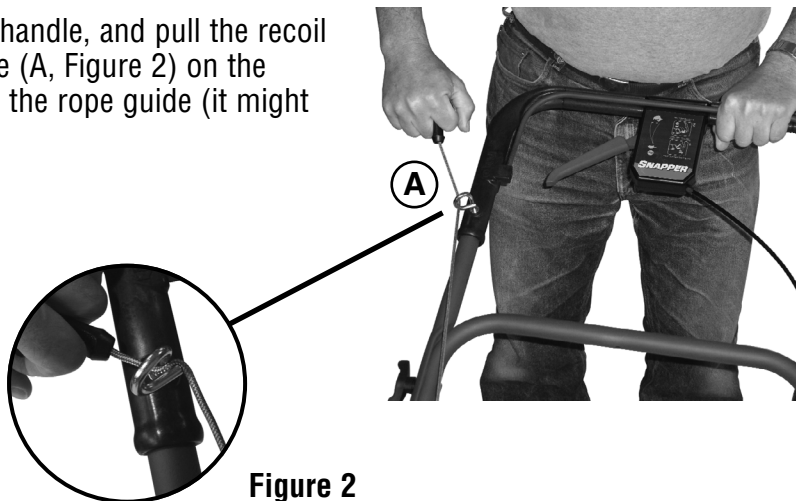

Figure 2
- Hold the bail control against the handle, and pull the recoil rope handle out to the rope guide (A, Figure 2) on the handle. Hook the recoil rope into the rope guide (it might be a tight fit).